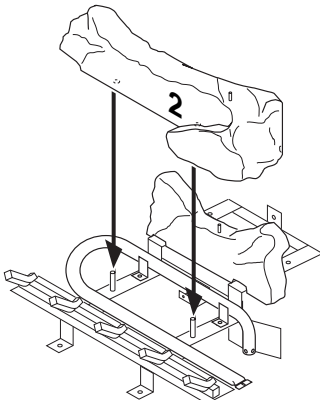

Figure 42 - Installing Log No. 2
2. Rest log #2 (front log) on pins on front part of grate (see Figure 42, page 25).